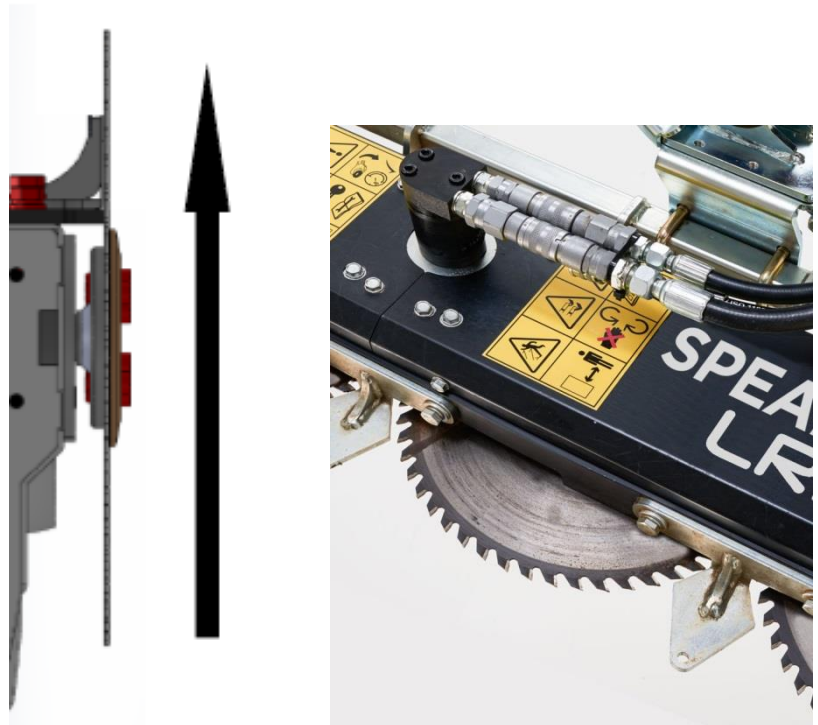

Figure 3.3
3.2.2.7 Connect the hydraulic hoses so the blades run in the correct direction. The case drain hose shall go in free to the hydraulic oil tank. Pressure (P) and Return (T) mounting locations are shown in Figure 3.3. Note however that Figure 3.3 shows quick release fittings (optional). For torque settings see Section 5.1.3.
- 4.4.4.5 Disconnect the hydraulic hoses that connect the Quadsaw with the reach arm. A reverse of Figure 3.3